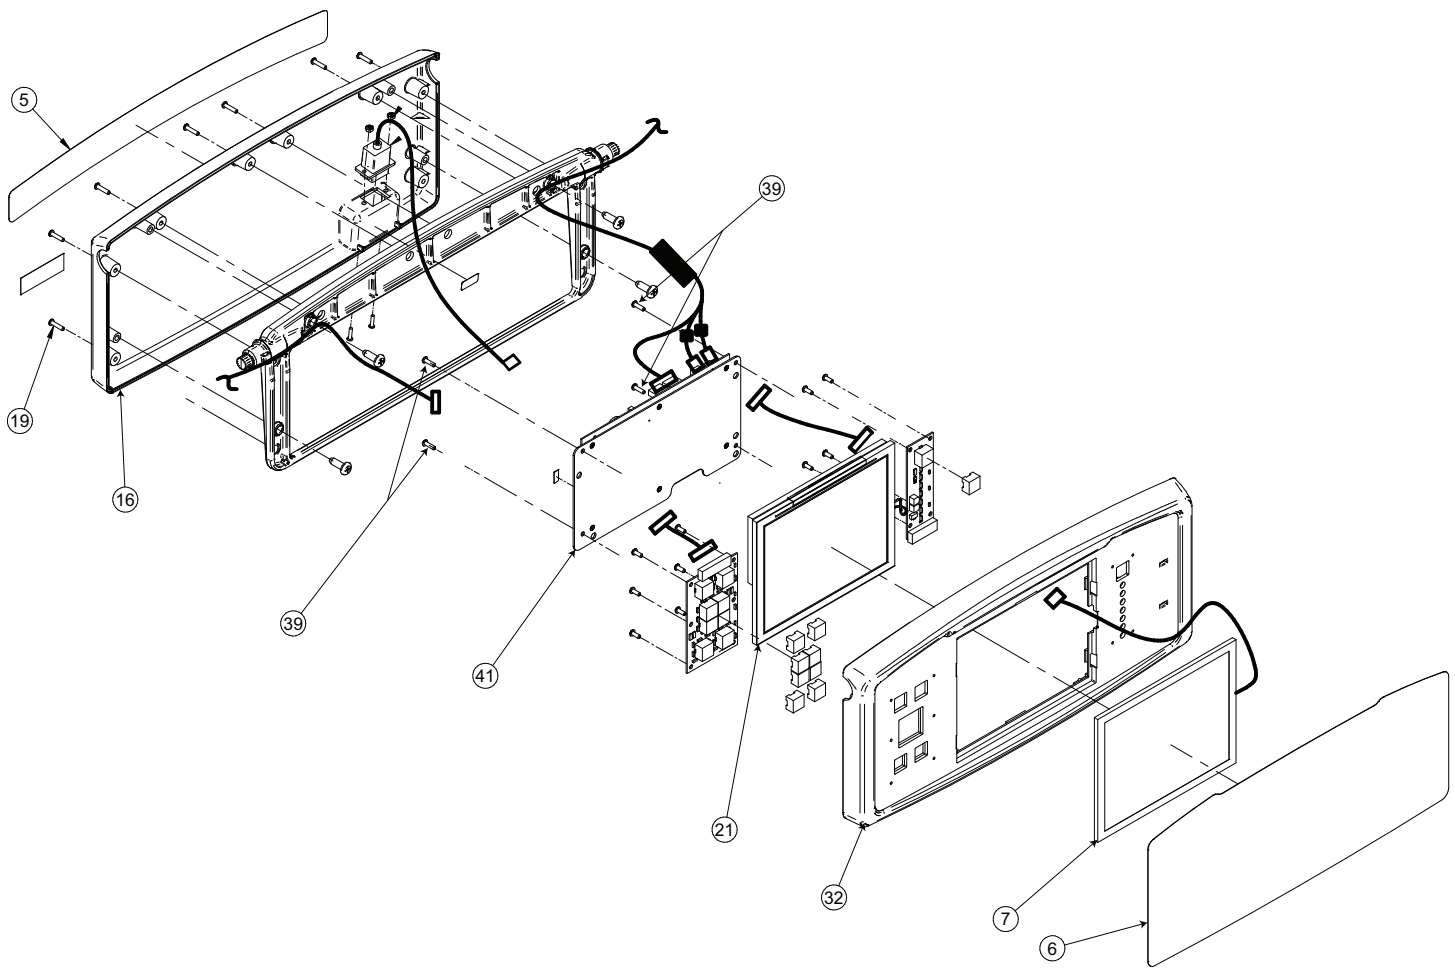

Figure 65 – Footboard assembly
3. Using a small slotted screwdriver, remove the fascia back foot control label (5) (Figure 65).
4. Using a #2 Phillips screwdriver, remove the six screws (19) that secure the front nurse panel (32) to the rear footboard control (16) (Figure 65). Save the screws.
6. Using a #2 Phillips short screwdriver, remove the two screws (19) from the bottom of the front nurse panel (32) (Figure 65). Save the screws.
17. Using a #2 Phillips screwdriver, remove the four screws (39) that secure the touch board assembly (41) to the display housing (Figure 65). Save the screws.
19. Using a small slotted screwdriver, separate the locking tabs from the LCD display (21). Remove and discard the display.
20. Using a small slotted screwdriver, remove the foot control overlay (6). Discard the foot control overlay. This will need to be replaced with the new overlay.
21. Using a small slotted screwdriver, remove the touch screen (7). Discard the touch screen.